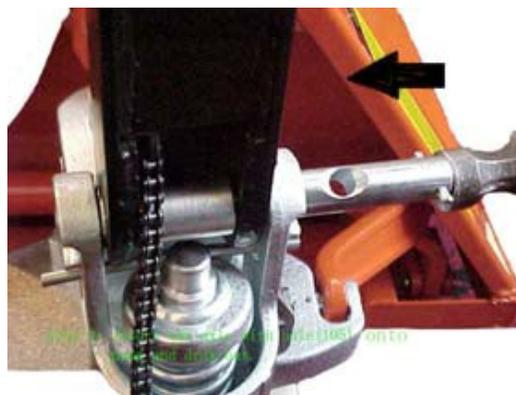

Fig. 2
2.1 Insert the Draw-Bar onto the Pump Piston (303), then use a hammer to insert the Axle with Hole (105) into the Hydraulic Pump and Draw-Bar **from the right to left** (from the perspective of standing behind the unit). (See Fig. 2).